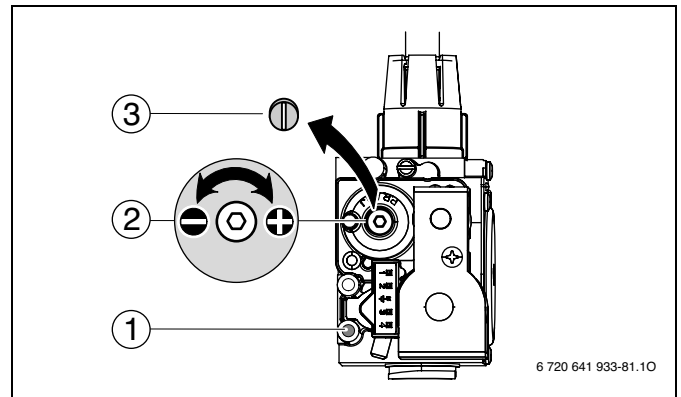
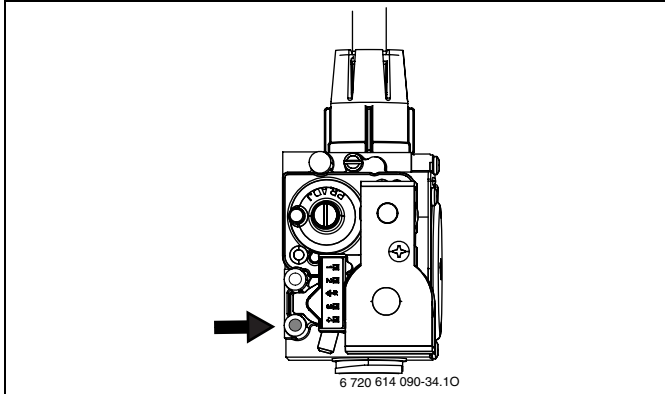

Fig. 72 Set CO₂ or O₂ level for minimum nominal output
Fig. 74 Dynamic gas pressure test port
- ▶ Remove the sealed screw (→ Fig. 72, [3]) from gas valve adjustment screw (→ Fig. 72, [2]) and set CO₂ or O₂ level for minimum nominal output.
- ▶ Reinstall the screw (→ Fig. 72, [3]) to cover the gas valve adjustment screw.
- ▶ Loosen the screw in the test port for gas inlet pressure (→ Fig. 72, [1]) and connect a pressure gauge (→ Fig. 74).